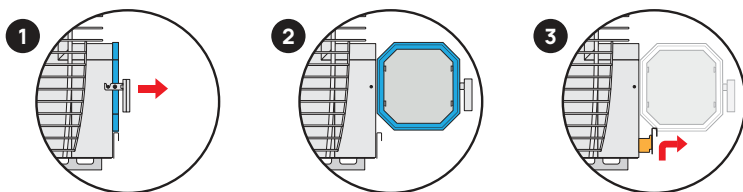

Figure 15. Removing HIVE Flow ash drawer.
- To remove the ash drawer for emptying, open the hearth door, lift the ash drawer slightly and then pull it out (the ash drawer has a safety limiter that prevents it from being opened excessively during heating). See **Figure 15**.